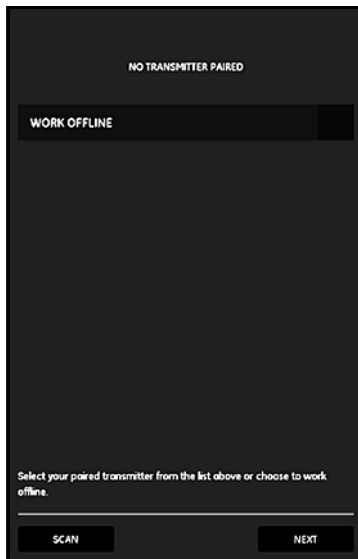

Figure 63: Initial Transmitter List
6. After the APP finishes loading, the default *Transmitter* list is displayed. During initial installation, this list is empty (see *Figure 63* below).